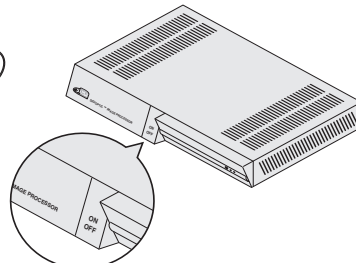

Fig. 13b
2) Turn on the DigiOptic™ Image Processor by pressing the button on the front panel (Fig. 13b).